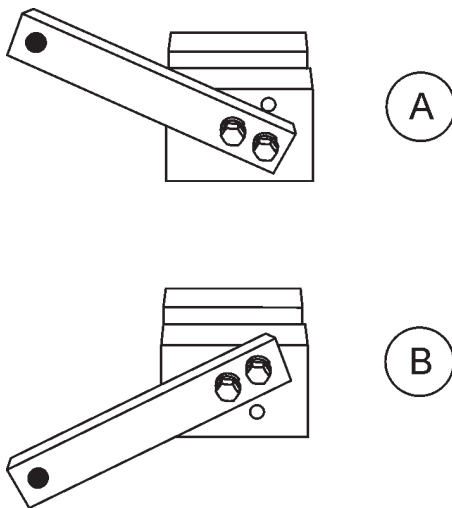

Figure 55. Trowel Arm Adjustments
2. Ensure the fixture arm is in the proper setting (up or down) for your trowel arm rotation as shown in Figure 55.